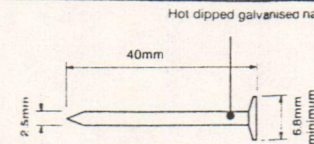

Fig. 15 Hardiflex nail
- Fix in conjunction with the dot pattern on the sheet which is set out for normal vertical sheet fixing. Use 40mm x 2.5mm galvanised flat head Hardiflex nails (Refer Fig. 15).